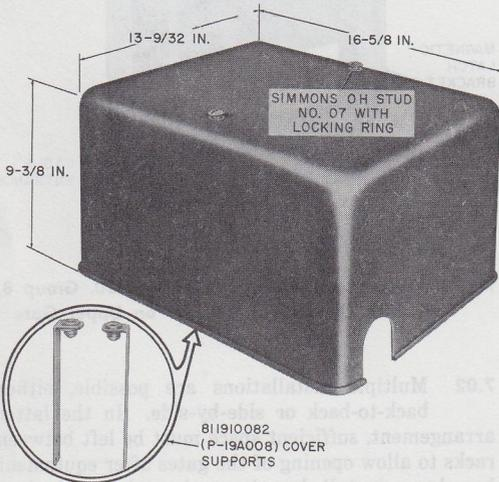

Fig. 33—116A Cover
8.01 The 116A cover (Fig. 33) is designed to enclose: